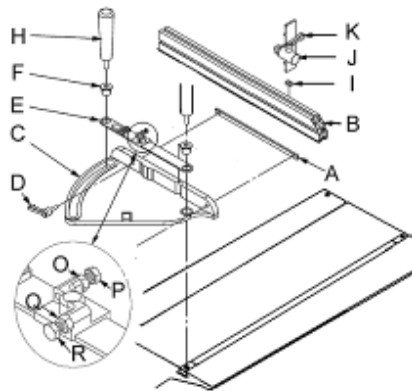

Fig 9
Slide the mitre gauge fence (B, Fig. 9) into the bar (A) and attach to the mitre gauge body (C) with two handles (D). Note: the 45° chamfered end (B) should be pointing at the saw blade.